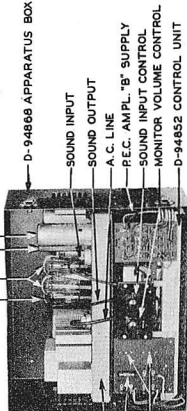

FIG. 1 D-94804 AMPLIFIER (COVER REMOVED)
2.2 Description (See Figure 1)
The D-94868 Apparatus Box houses the amplifier and control unit. It has a cover which is hinged in place of the D-95036 Amplifier, and a circuit label. For dimensions and weight, see Figure 1.